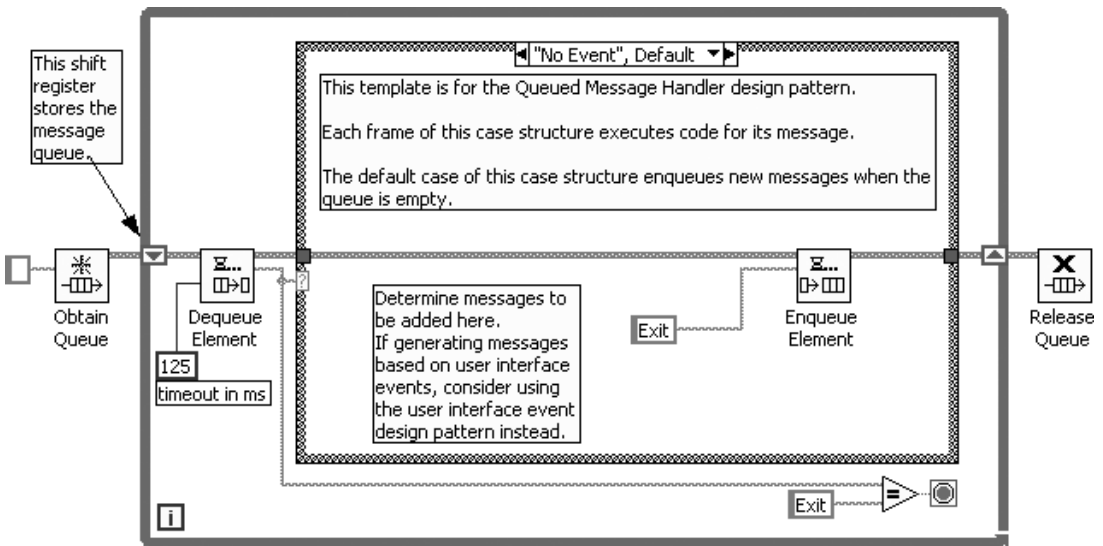

Figure 13.91
2. Convert the new queued message handler VI, so that it uses a queue, instead of an array of strings, as shown in Figure 13.91.